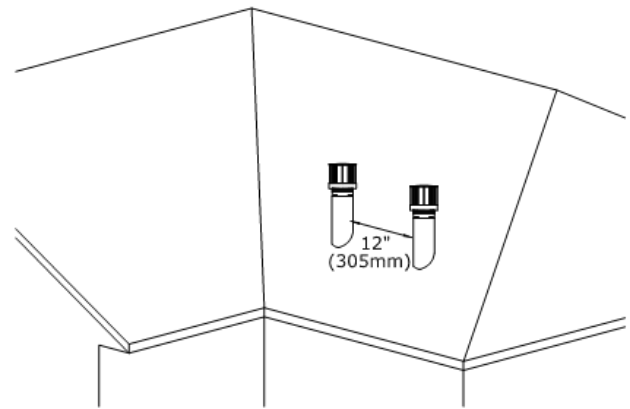

Figure 6.2 - Clearances Between Two Terminations
- Refer to Figure 6.2 below for clearance between two vertical terminations.